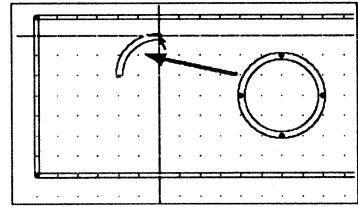

Figure 5-20. Moving the upper left arc.
1. Place the pointer at (0.3000", 0.0500") and select **MOVE**. The upper left arc moves with the pointer (figure 5-20).